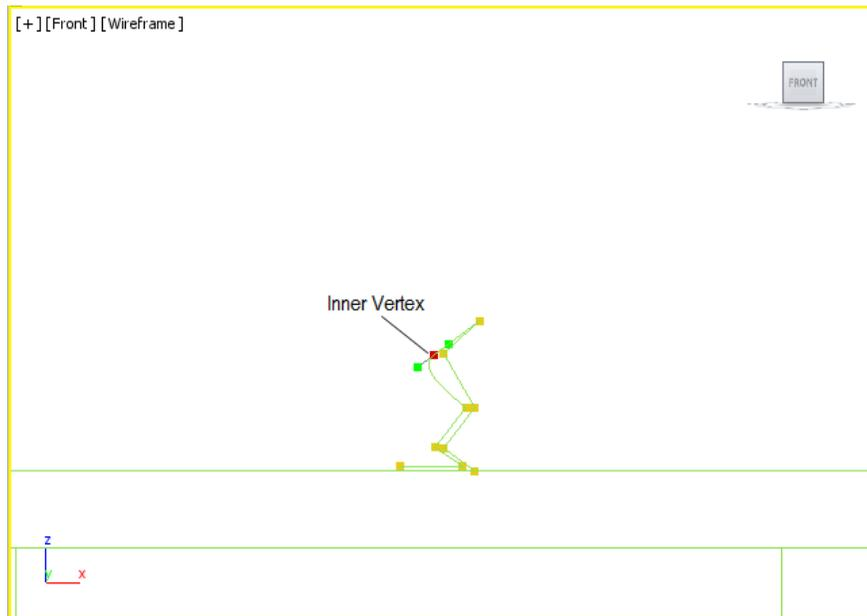

*Figure 5-11 The profile of the Jug*
7. Right-click to exit the **Line** tool; a double-line profile of the jug is created. Use the **Zoom** and **Pan** tools, if needed, to display the entire profile of the jug, refer to Figure 5-11.